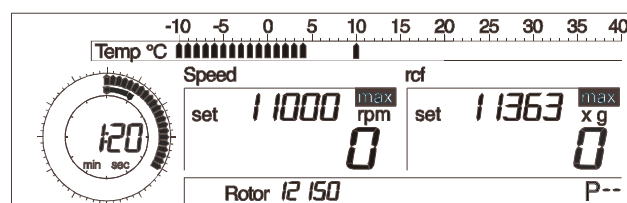

Fig. 5.18: Set temperature above actual temperature
- If the set temperature is above the actual temperature, it will be represented by one single bar on the temperature scale (Fig. 5.18).